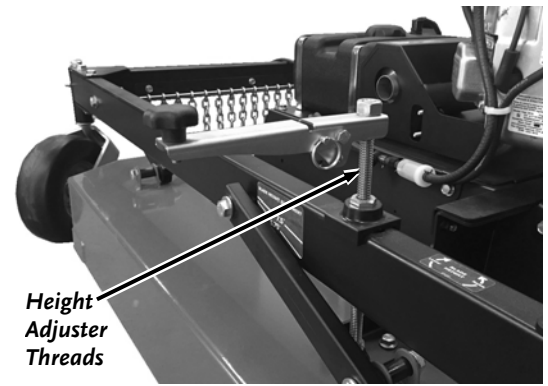

Figure 29
2. Clean any dirt or debris from the Height Adjuster threads with a Wire Brush and Rags (**Figure 29**).